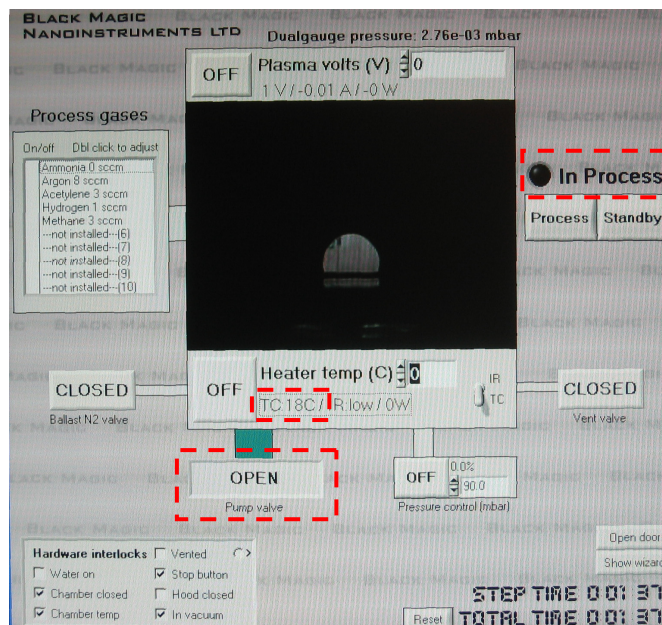

Figure 6. Initial Screen within running tool
- 10- A Black Magic Kernel Window will open and display various parameters initializing. Then a Black Magic 2006 Pro Window will open and display the status of the tool. Before you proceed, there are several things you need to check (Figure 6). There are system interlocks that need to be satisfied before you can vent the tool: